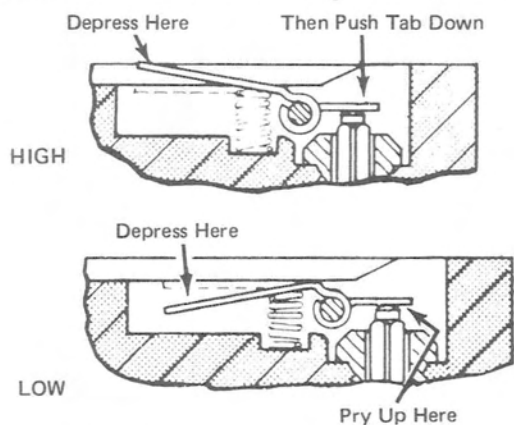

Figure 3. Inlet Control Lever Adjustment
3. Adjust inlet control lever so that center of lever, that contacts the metering diaphragm, is flush with metering chamber wall, as shown in the Figures 3 and 4 drawings.